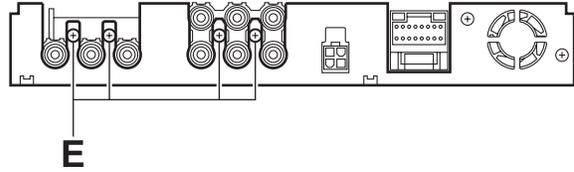

Fig.5
### 3.5.3 Removing the hideaway board (See Figs.5 and 6)
- (1) From the rear side of the main body, remove the four screws **E** attaching the hideaway board. (See Fig.5.)